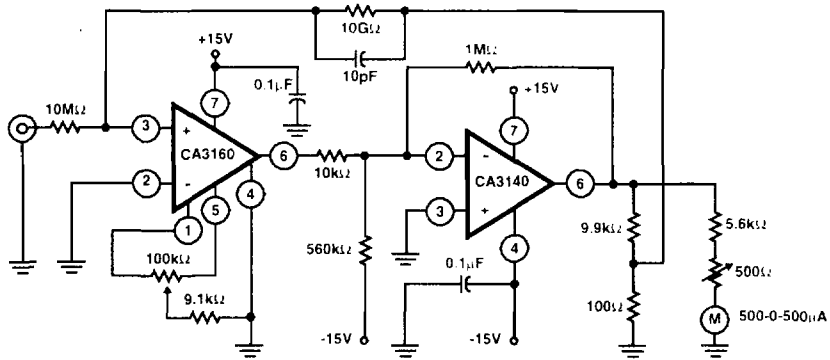

FIGURE 12. CURRENT-TO-VOLTAGE CONVERTER TO PROVIDE A PICOAMMETER WITH $\pm 3\text{pA}$ FULL SCALE DEFLECTION
Figure 12 shows a single supply sample-and-hold system using a CA3160 to provide a high input impedance and an input voltage range of 0V to 10V. The output from the input buffer integrator network is coupled to a CA3080A. The CA3080A functions as a strobeable current source for the CA3140 output integrator and storage capacitor. The CA3140 was chosen because of its low output impedance and constant gain-bandwidth product. Pulse "droop" during the hold interval can be reduced to zero by adjusting the 100k Ω bias-voltage potentiometer on the positive input of the CA3140. This zero adjustment sets the CA3080A output voltage at its zero current position. In this sample-and-hold circuit it is essential that the amplifier bias current be reduced to zero to minimize output signal current during the hold mode. Even with 320mV at the amplifier bias circuit terminal (5) at least 1100pA of output current will be available.